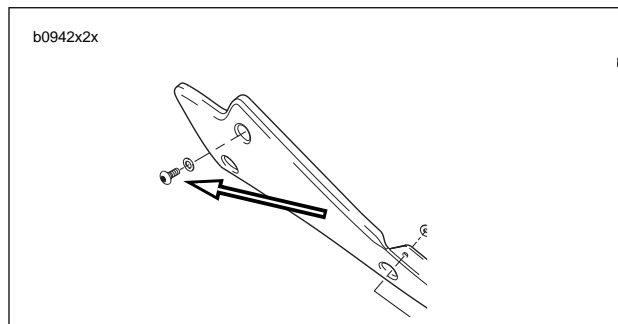

Figure 2-102. Chin Fairing Assembly
1. See Figure 2-102. Remove back right chin fairing fasteners.